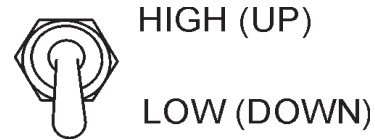

Figure 62. Engine Speed Switch (Low)
22. Place the engine speed switch in the “**LOW**” position (Figure 62).